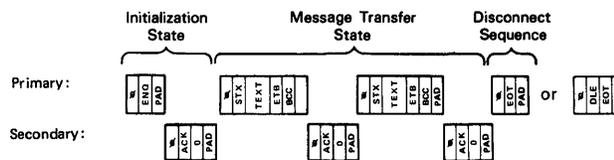

Figure 4-14. Normal BSC Message Transmission
**MESSAGE TRANSFER STATE:** The message transfer state begins after a successful completion of the initialization state. The initial heading block in a message may begin with SOH and will end with ETB or ETX. A heading block cannot be sent unless text data follows it. (See Figure 4-14.)